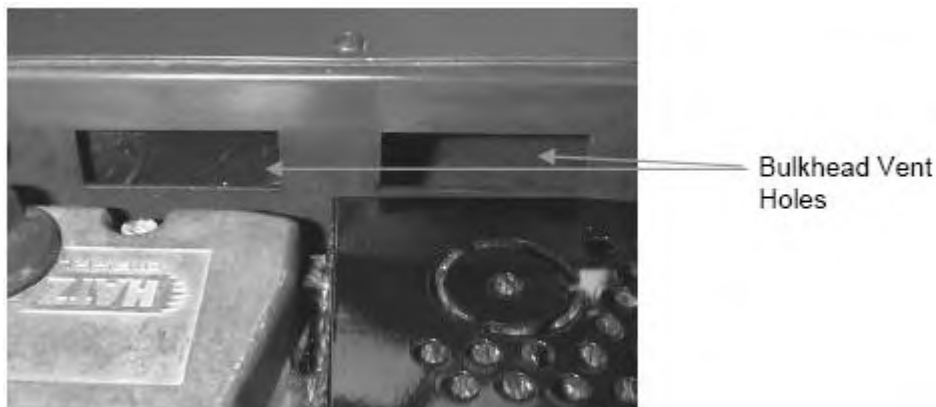

Figure 4 Bulkhead vent holes
25.3 Examine the vent holes in the Bulkhead (Figure 4) for signs of damage or blockage. Clear any blockages.